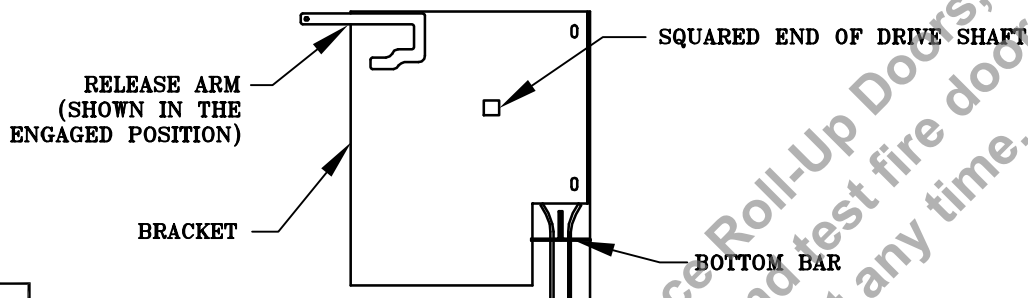

FIG 33
9. To reset the door, see reset instruction in FIG 33.